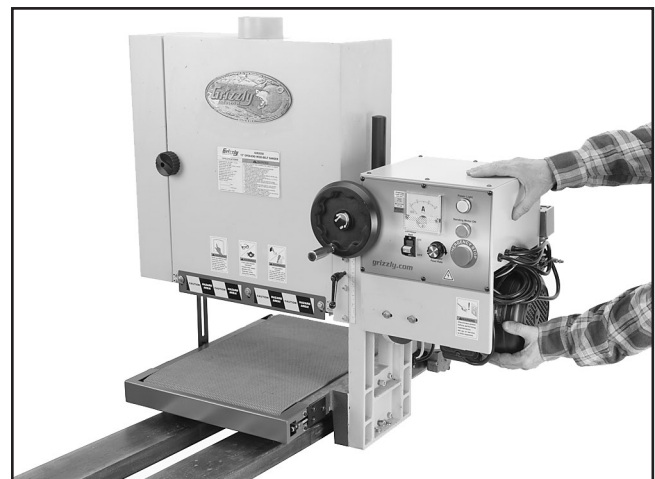

Figure 9. Forklift forks positioned under sanding assembly.
3. Place the forklift forks in a stable position under the conveyor, as shown in Figure 9.